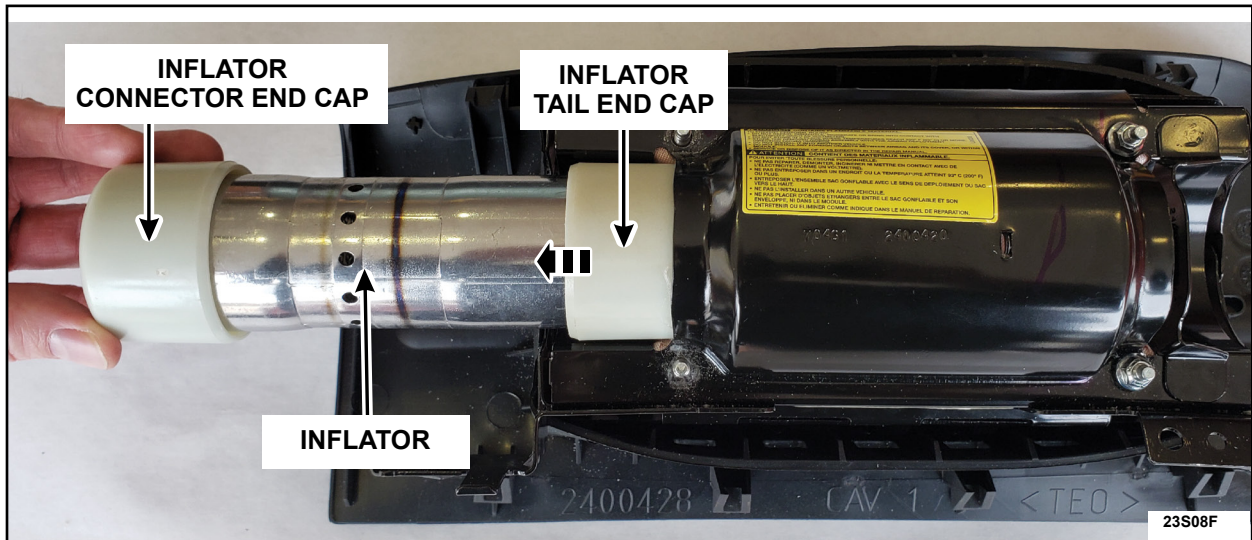

FIGURE 5
6. Remove the inflator from the airbag assembly by pushing outward on the inflator. See Figure 5.